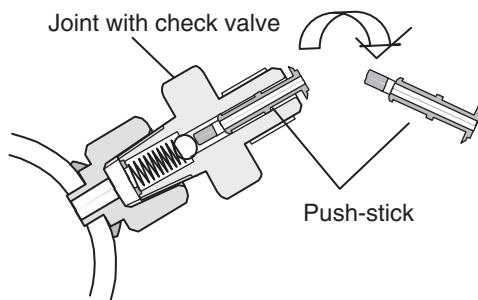

Fig. 2 Do not lose push-stick.
- ※Do not lose push-stick inside the joint. (Fig. 2)
6. Set one end of heat shrink tube to left side of union joint. (Fig. 2) And then
- ① Shrink the tube by heating up using hair dryer.
- ② Apply silicon sealant to both ends of the tube.
- ③ Band both ends of the tube.
10. ④ Bend the LPT cable as shown in the photograph below, and secure it to the LPT body with the band.